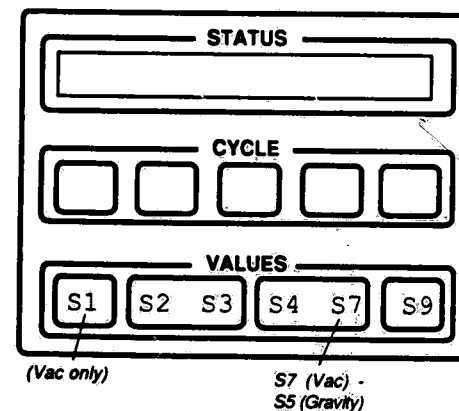
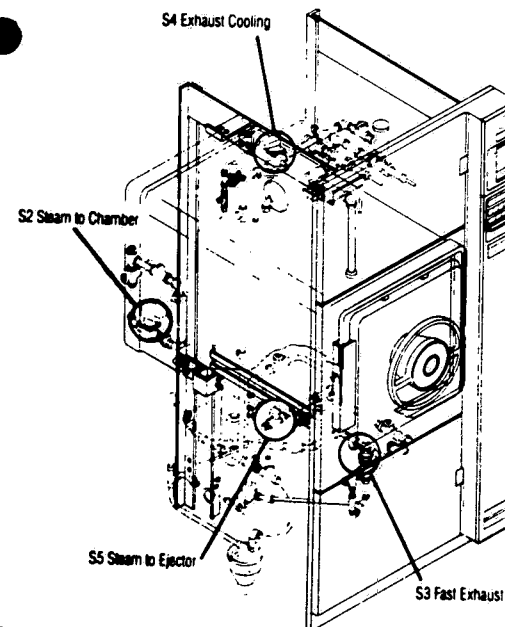

FIGURE 5-9 - Valve Control Touch Pads
FIGURE 5-10 - Solenoid Valves (Gravity Unit)
6. Energize each solenoid valve by pressing the appropriate touch pads (Figure 5-9), one at a time. Lightly touch the top of the solenoid valve core with a small steel screw driver or a steel scribe. See Figure 5-10 and 5-11 for valve locations.